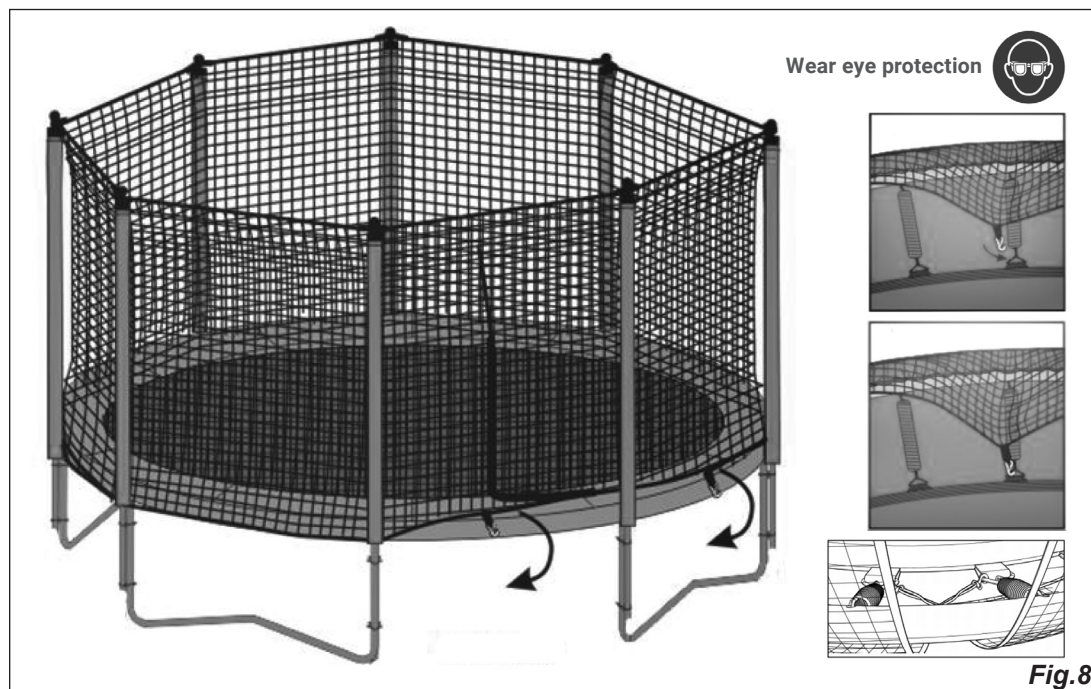

Fig.8
Step 6: Once the net is loosely hung beginning at the doorway stretch and hook down the net as shown (Fig.8) secure the net hooks around the base frame and attach to the V-rings where the matt springs hook onto the bounce mat.